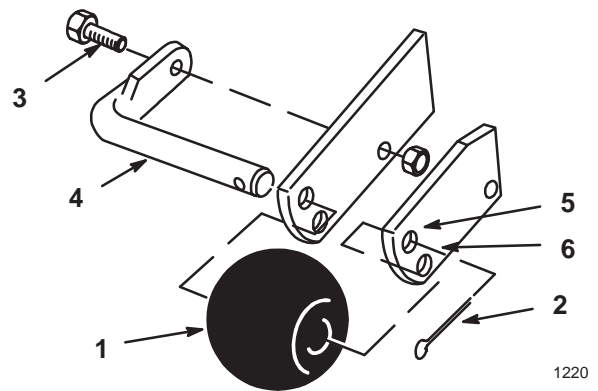

Figure 19
2. Remove cotter pin, bolt and shaft to change hole location (Fig. 19).
3. Select the hole position for the height-of-cut to be used and insert rod (Fig. 19).